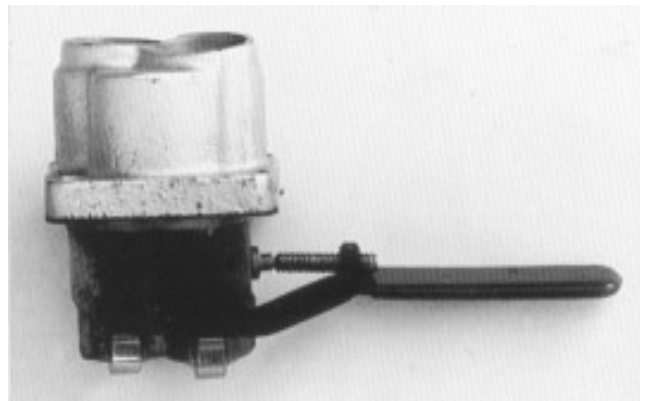
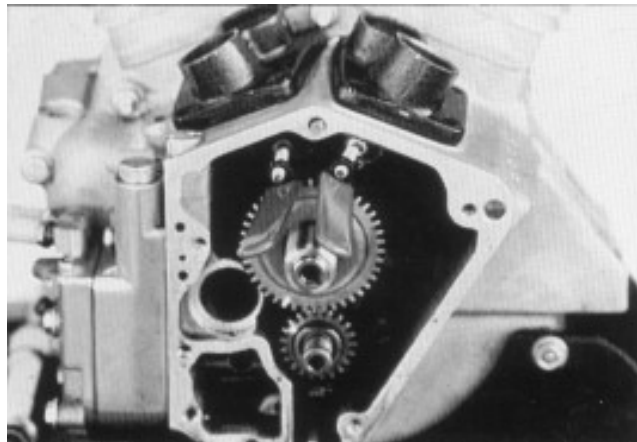

Fig. 2
Fig. 3
3. Hold both tappets up against the pushrods, making sure pushrods are seated in the rocker arms and centered over the pushrod seats in the tappets. This is very important throughout assembly to avoid damaging parts. While holding tappets up, insert tangs of installation tool through tappet guide slots into tappets just above rollers (Fig. 2). With an allen wrench, tighten the tool's swivel foot against the tappet guide while holding tappets up. Tappets and pushrods will now stay in place (Fig. 3).